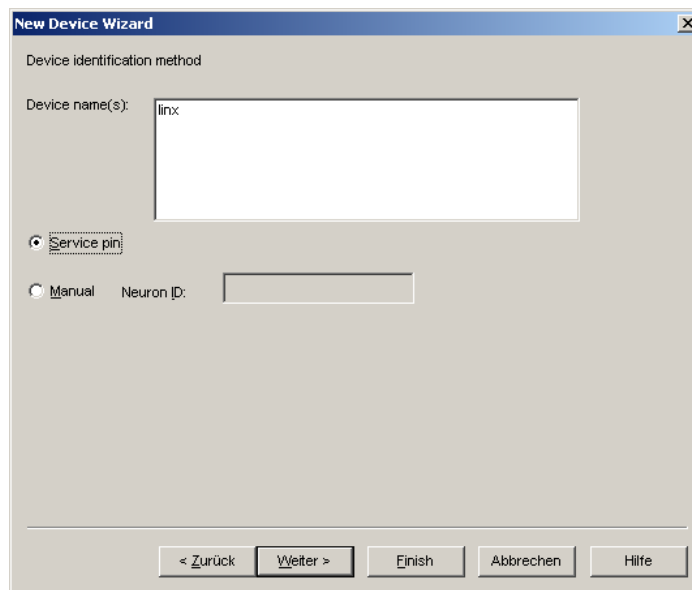

Figure 67: Use Service Pin.
6. Check Service Pin as the device identification method as shown in Figure 67 and click **Next**.